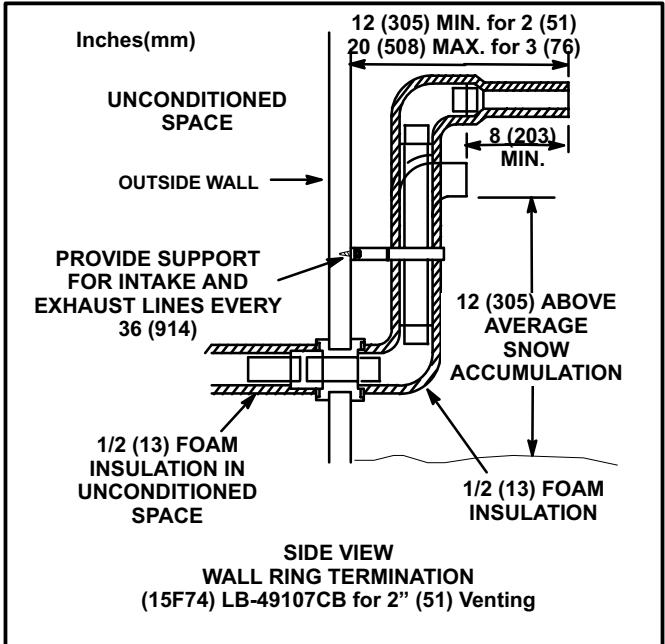
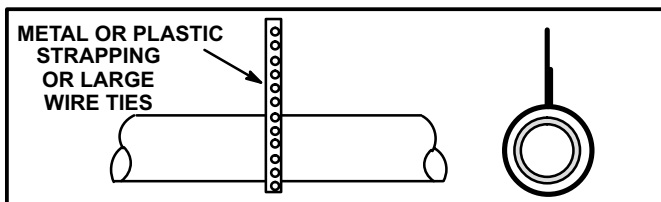
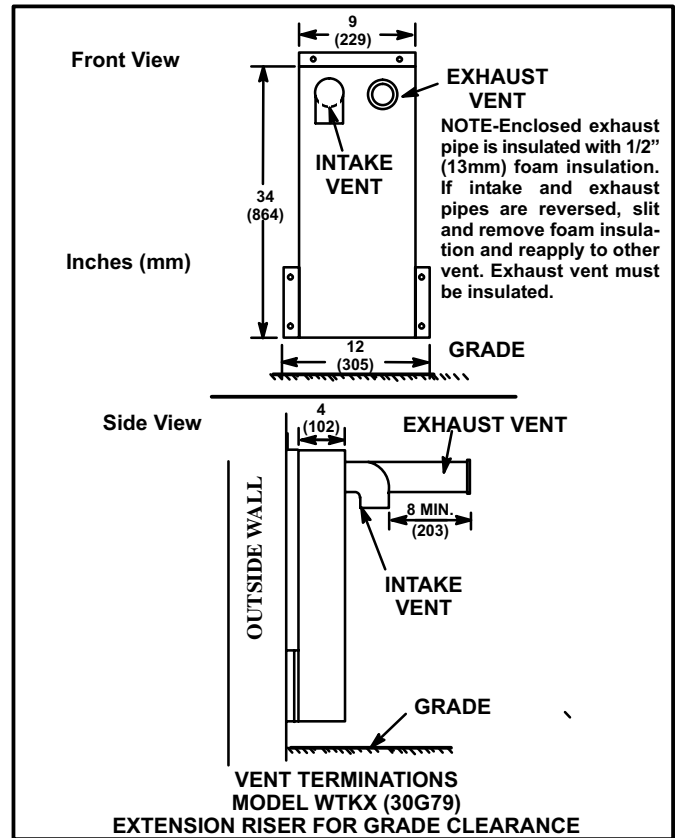
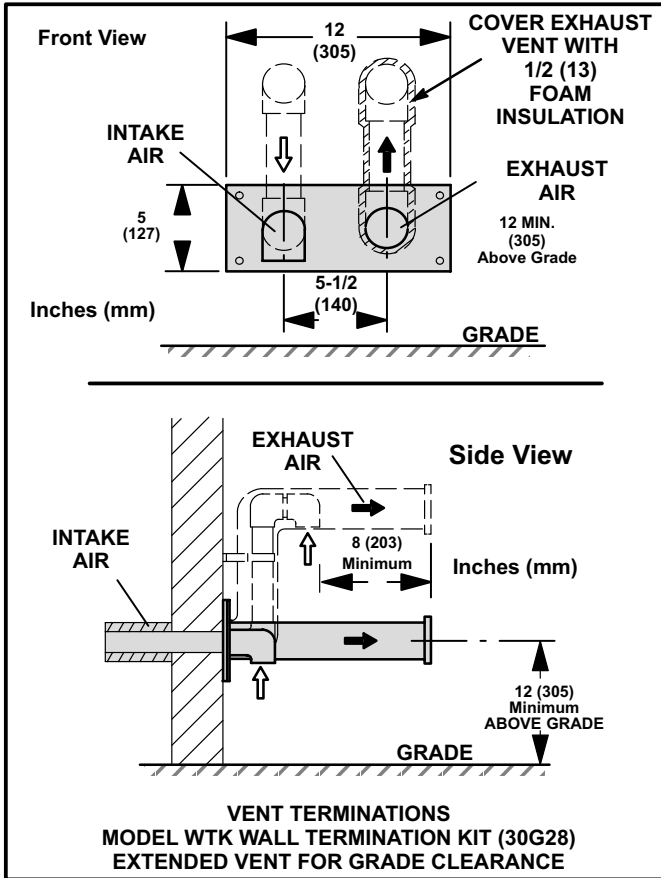

FIGURE 39
FIGURE 41
FIGURE 45
FIGURE 44
- 8 - If intake and exhaust piping must be run up a side wall to position above snow accumulation or other obstructions, piping must be supported every 3 ft. (.91m) as shown in figure 41. Refer to figures 39 and 40 for proper piping method. WTK wall termination kit must be extended for use in this application. See figure 44 or use kit WTKX shown in figure 45. When exhaust and intake piping must be run up an outside wall, the exhaust piping is reduced to 1-1/2" (38mm) after the final elbow. The intake piping may be equipped with a 90° elbow turndown. Using turndown will add 5ft. (1.5m) to the equivalent length of the pipe.